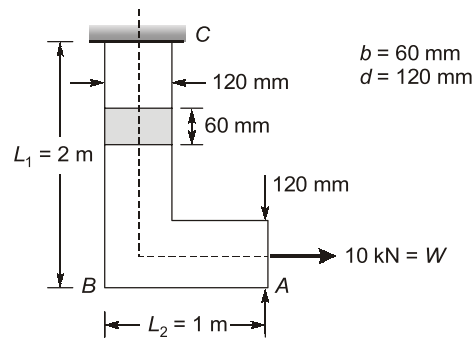

Fig. 11.1
Q.11.1 The L -shaped bar shown in figure 11.1 is of uniform cross-section $60 \text{ mm} \times 120 \text{ mm}$. Calculate the total strain energy. Take $E = 2 \times 10^5 \text{ MPa}$, $G = 0.8 \times 10^5 \text{ MPa}$.